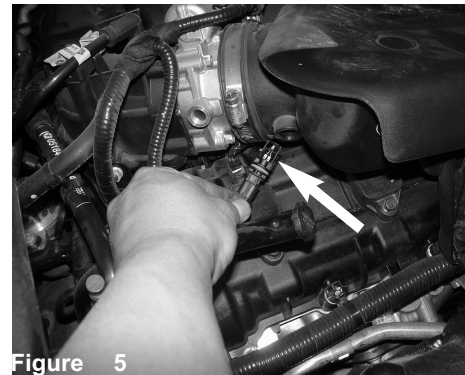

Figure 5
(A) Use a M6 nut and fender washer to secure the intake bracket to the vibramount. Make your final adjustment and secure the clamp on the hose in figure 5 (B) Use the 10"-15mm vacuum hose and connect the vacuum nipple on the intake tube to the crank case vent tube